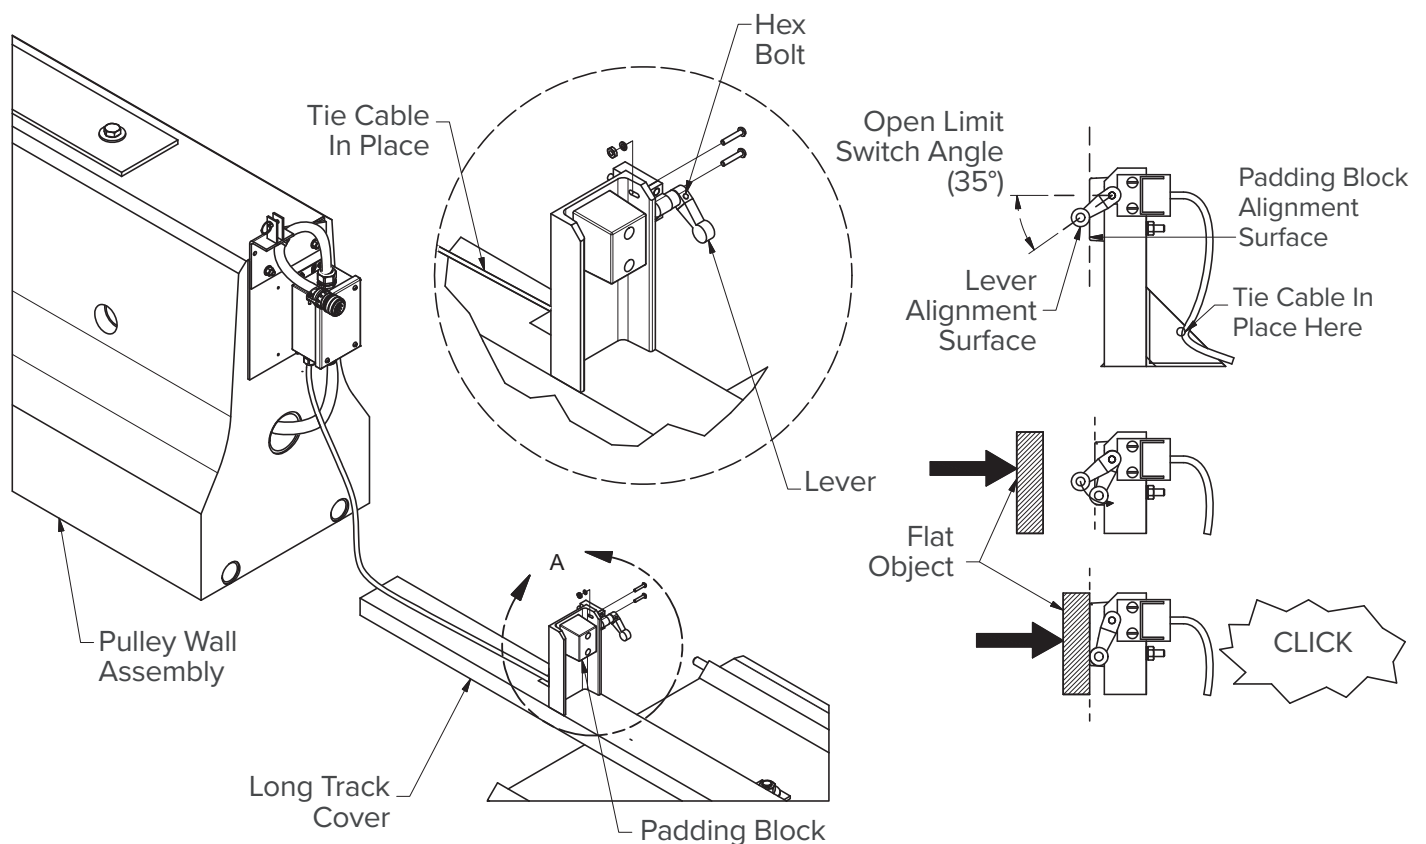

Figure 12
3. **Attach the open limit switch to the track cover:** Remove the open limit switch from its temporary mounting at the end of the Pulley Wall Assembly. Attach the limit switch to the Track Cover Mount with the screws provided. Route the cable along the center of the cover and hold it in place with a wire tie through the small hole provided. The open switch angle (see Figure 12) is set at the factory for new installations. The lever should be pointed downwards at an angle of roughly 35°. If the lever is **not at an angle**, perform A – D below. If the lever **is at an angle**, perform C – D.
- During the motion a faint “click” sound should be heard coming from the limit switch (bottom-right image in Figure 12). If a click is not heard, decrease the angle slightly (repeat A and B, lever will be higher) and re-test (repeat C and D).